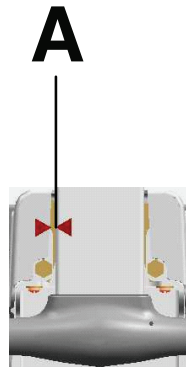

Figure 4 – Siderail arrow pointers
3. Pull on the siderail to make sure that the siderail is latched and the arrow pointers (A) are aligned (Figure 4).